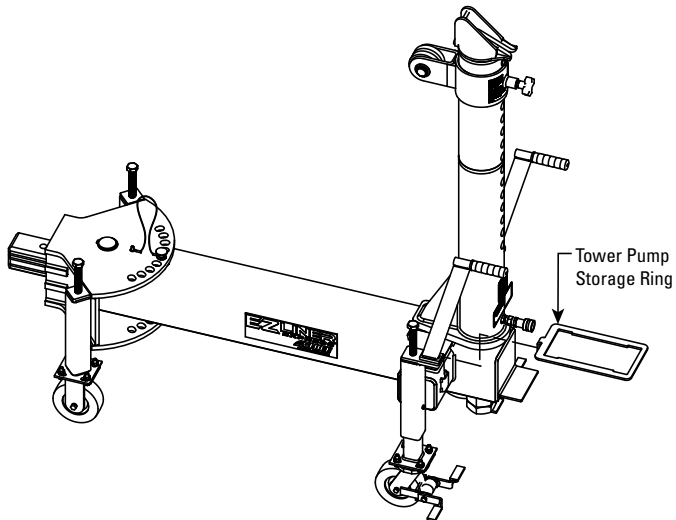

Figure 10
4. Insert the Tower Head Assembly into the top of the Tower Pipe. Align the chain stop end of the Tower Head with the Collar Pin Handle or rear of the Tower Pipe (see Figure 10).
8. Insert the Tower Pump Storage Ring into one of the brackets on the rear of the Side Supports of the Tower (see Figure 10).